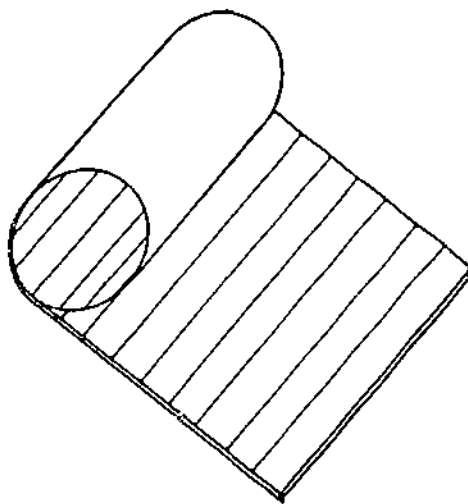

Figure 5-21. Stretchout of Cylinder
1. rolled out (or stretched out) in the case of cylindrical shapes (Figure 5-21).